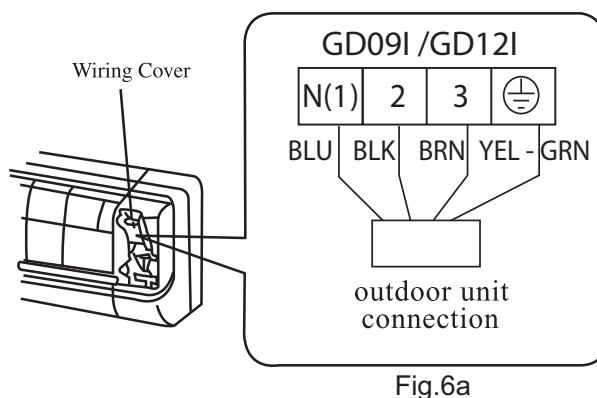
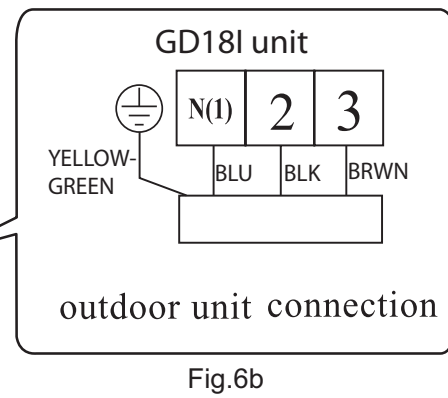

Fig.6a
Fig.6b
2. Remove the wiring cover as per Fig 6a(For models GD09/GD12) use Fig.6b (For GD18).